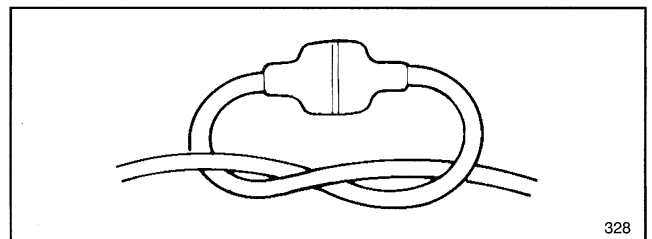

Figure 5
2. Secure the trimmer power cord and a suitable extension cord as shown in Figure 5.